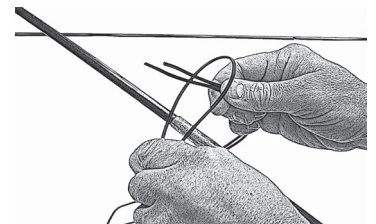
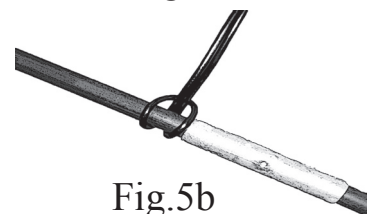

Fig.5a
Fig.5b
5. Connect one Tie Down to each of the four fiberglass poles. The Tie Downs should be attached above the second metal connector on each pole. Hold both ends of one Tie Down in one hand and find the center with the other hand. Wrap the rope around the pole and insert the ends through the loop, forming a slip knot. (Fig.5a) Pull the knot tight. (Fig.5b) Repeat this step for the other three poles (Remember: Tie Downs should be attached above the second metal connector on each pole. Attaching the Tie Down above the connector will keep the knot from sliding down the pole.)